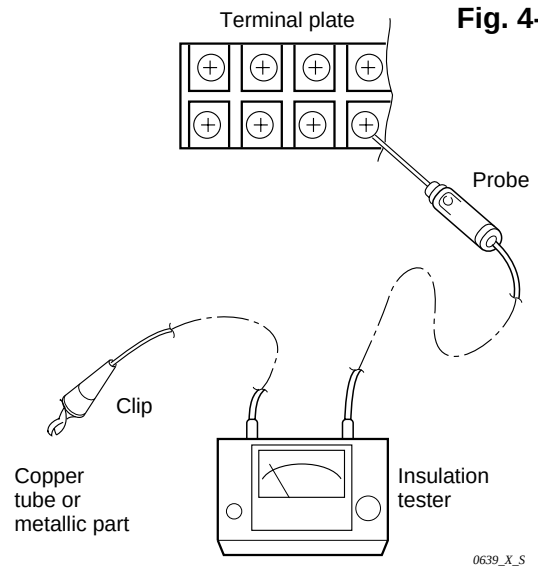
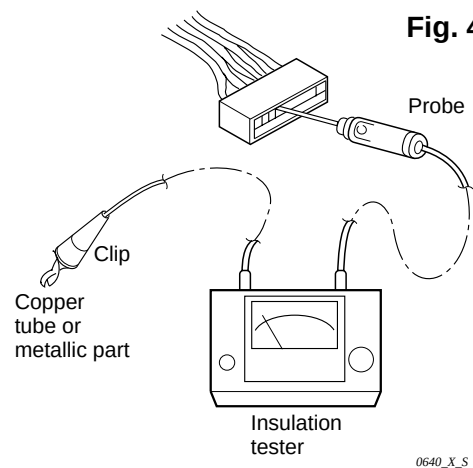

Fig. 4-3
Fig. 4-4
Clamp an aluminum plate fin or copper tube with the lead clip of the insulation resistance tester, and measure the resistance by placing the probe on the terminal plate. (**Fig. 4-3**)
③ Outdoor Unit
Measure the resistance by placing a probe on the terminal plate in the same manner as explained above in ②. (**Fig. 4-3**)
④ Measuring the Insulation Resistance for Electrical Parts
- Disconnect the connector of the desired electrical part from terminal plate, P.C.B. Ass'y, etc. (**Fig. 4-4**)